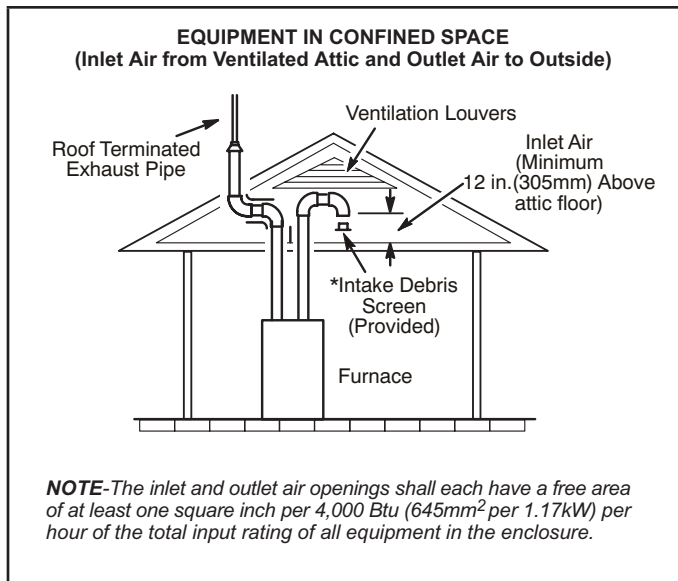
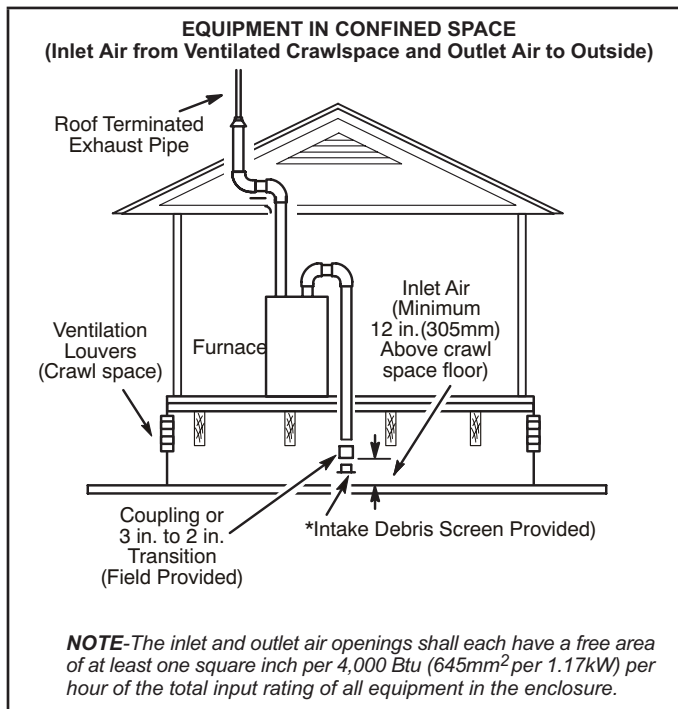

FIGURE 27
FIGURE 28
- 2 - If intake air is drawn from a ventilated attic (FIGURE 27) or ventilated crawlspace (FIGURE 28) the exhaust vent length must not exceed those listed in TABLE 14. If 3" diameter pipe is used, reduce to 2" diameter pipe at the termination point to accommodate the debris screen.